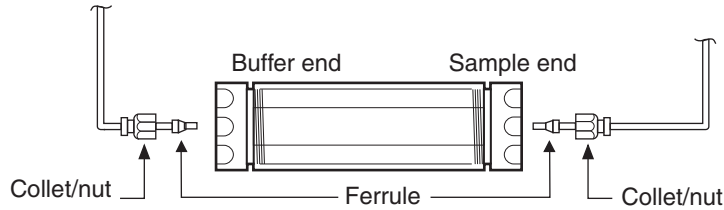

Fig. 4. DynaLoop plumbing connections.
1. To make a collet/nut connection at the end of the DynaLoop, slide a collet/nut fitting and ferrule over the end of the cut tubing. Make sure the tapered end of the ferrule faces the tubing end. The blunt end of the ferrule must face the collet/nut (Figure 4).